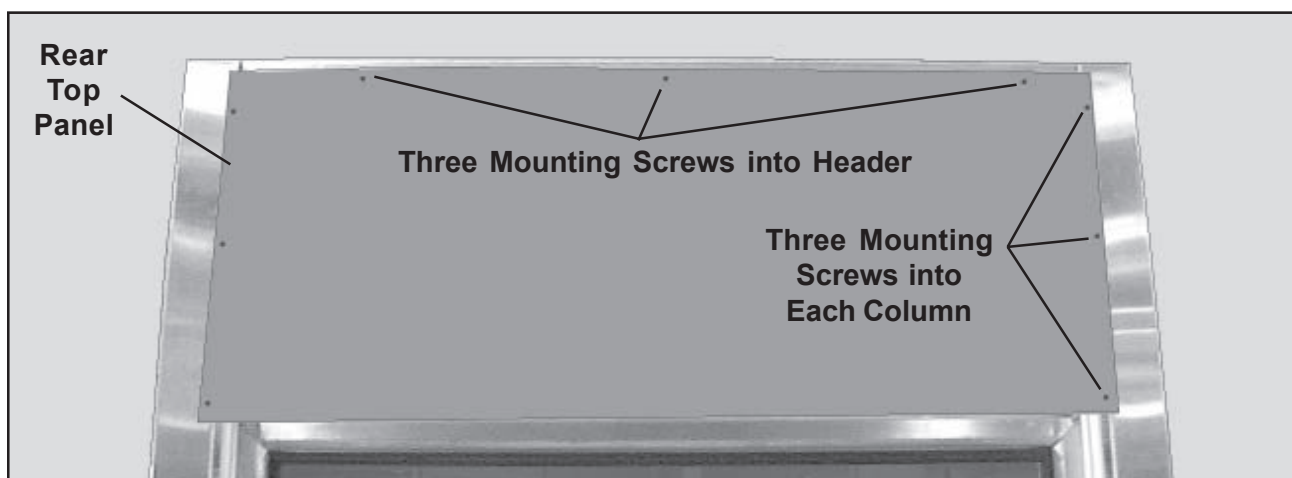

Figure 52. Front View of Cubicle Showing Mounting of Front Top Panel
1. Hold the front top panel in place against the front of the header and columns (Figure 52).
2. Remove the screws that hold the top of the front or rear top panel (as applicable) to the header (Figure 52).